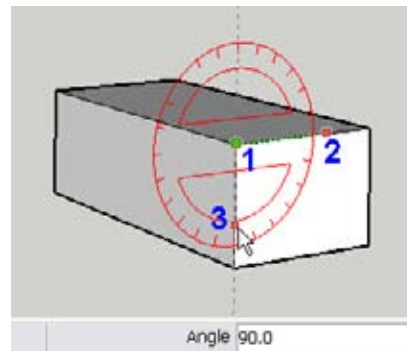

Figure 10-25
2. Click the corner whose angle you want to measure (point 1 in Figure 10-25). Then click anywhere on one edge that defines the angle (point 2), and hover over a point along the other angle edge (point 3). The angle is listed in the Angle field.